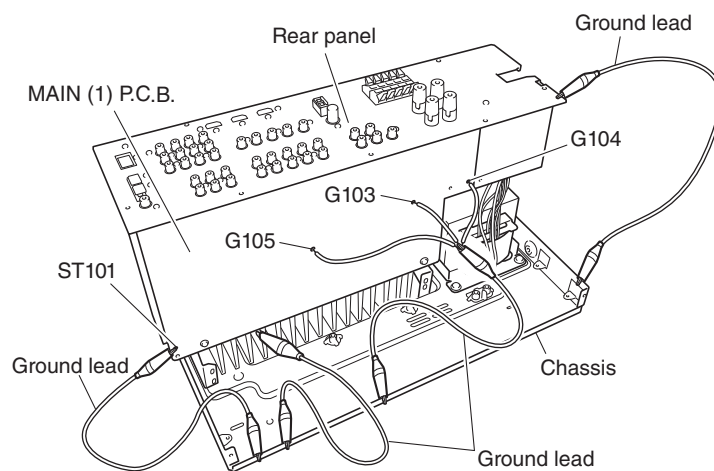

Fig. 5
- Place the P.C.B.s (with rear panel) upright. (Fig. 5)
- Connect the ground of heat sink, rear panel and MAIN (1) P.C.B. (G103, G104, G105 and ST101) to the chassis with a ground lead or the like. (Fig. 5)